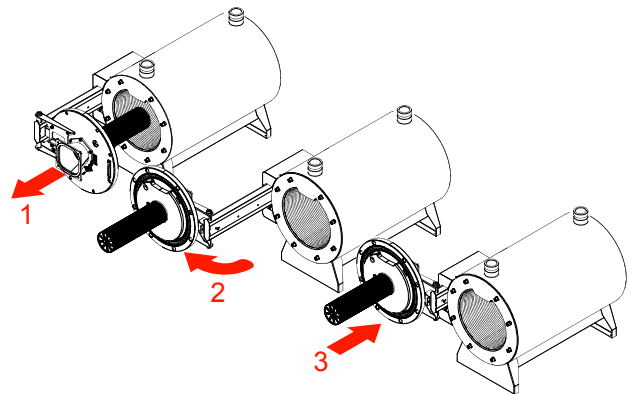

Figure 35: Burner Door Opening
- d. This unit is equipped with a sliding mechanism shown in Figure 35. Position (1) the burner assembly slides out of the combustion chamber, (2) rotate away from the combustion chamber and (3) sliding back to allow full access to the combustion chamber for inspection and service.